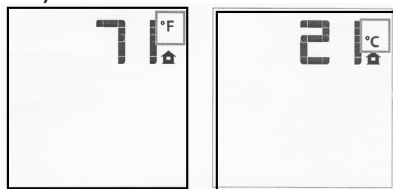

Figure 34 - Remote Control Display in degrees Fahrenheit and degrees Celsius
2. On the screen, verify that a °C or °F is visible to the right of the room temperature display (see Figure 34).